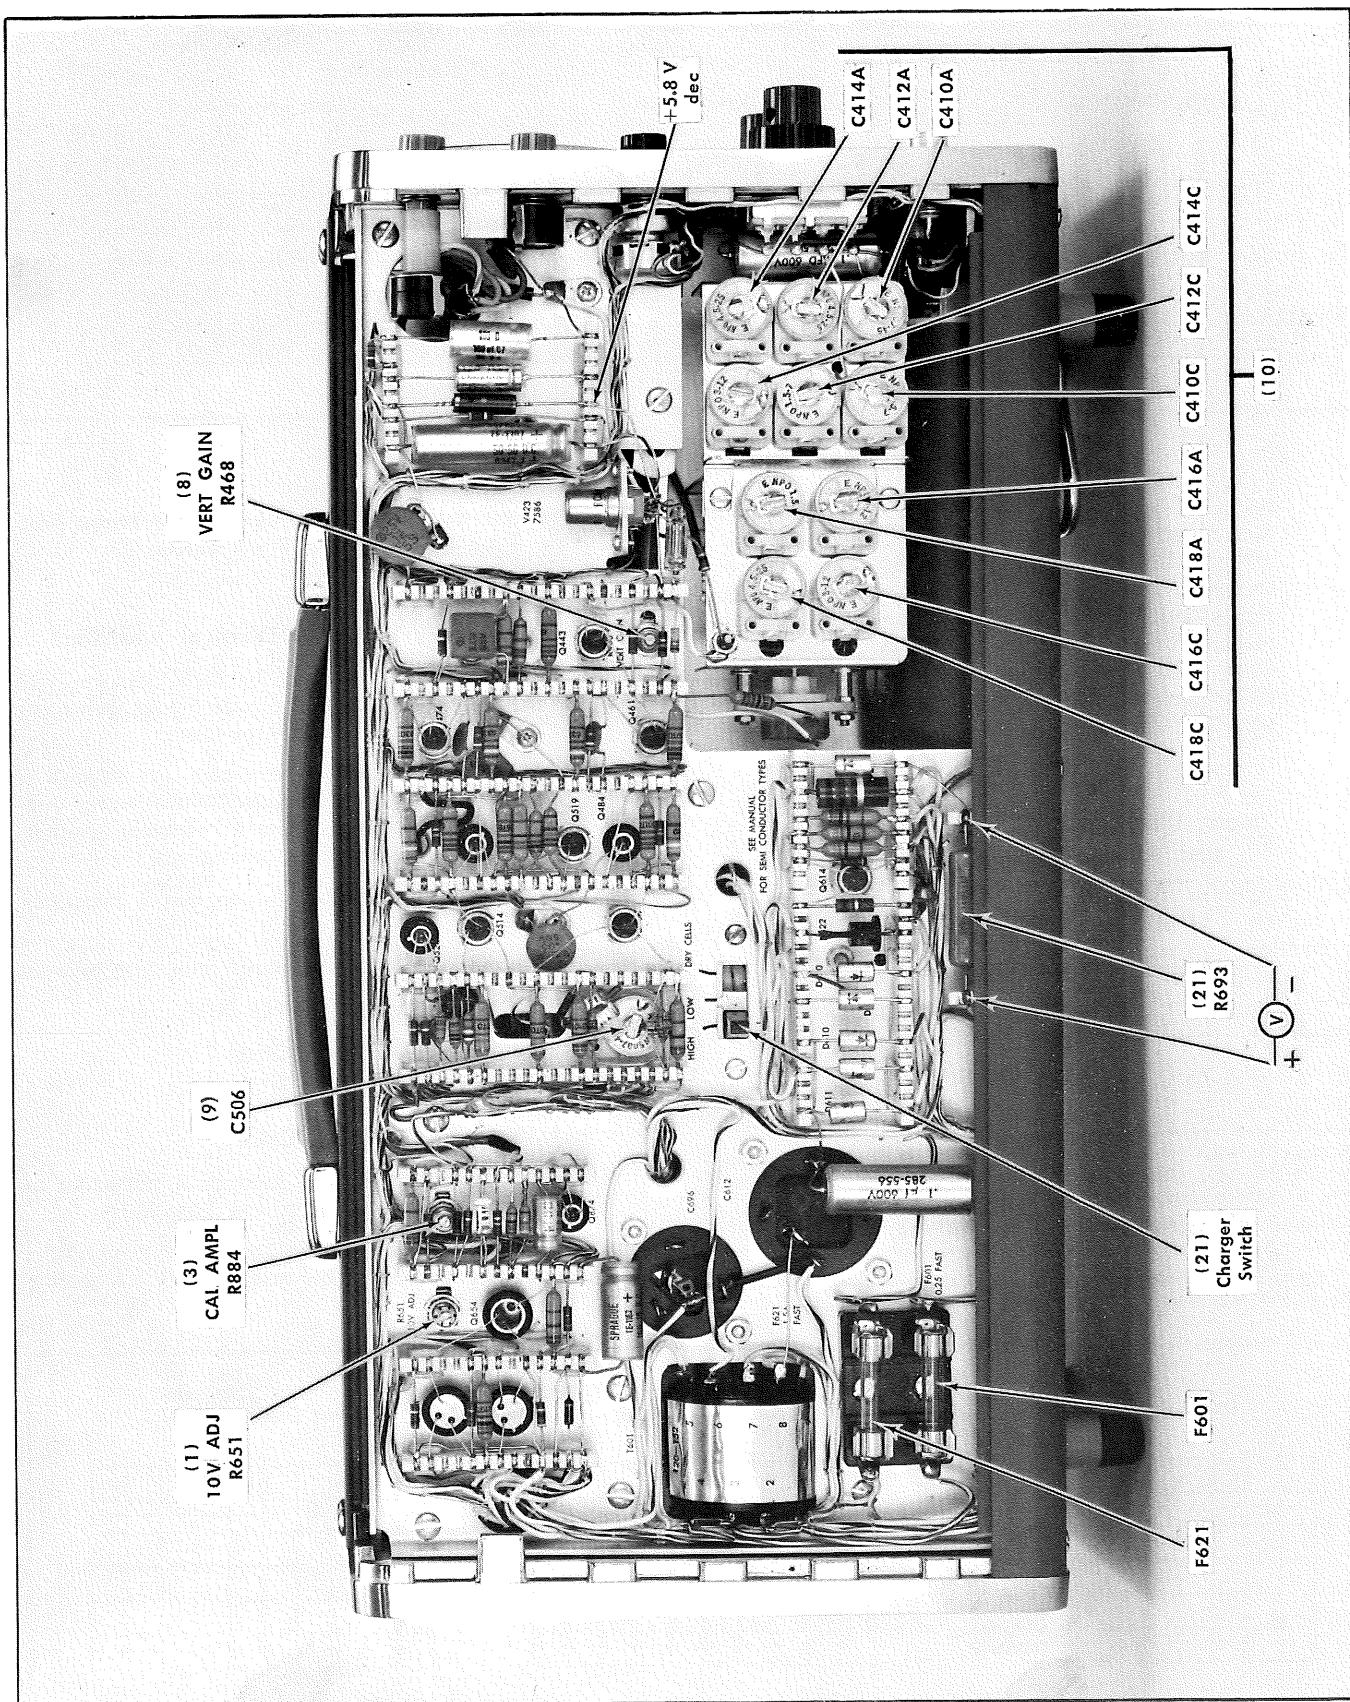

Fig. 6-5. Left-side view of the Type 321A Oscilloscope. The numbers in parenthesis refer to steps in the Calibration procedure.
- c. Approximately 4 divisions of signal should be displayed. Adjust the VERT GAIN R468 control (see Fig. 6-5) for exactly 4 divisions of vertical deflection.
- e. Adjust C506 (see Fig. 6-5) for best square-wave response; that is, for squarest leading top corner on the waveform.
- i. Using the information given in Table 6-2, adjust the two capacitors for each position (starting with the .02 VOLTS/DIV position) for best square-wave response. Location of the variable capacitors is shown in Fig. 6-5. Then, continue in a similar manner for the remaining VOLTS/DIV switch positions listed in the table. Maintain 4 divisions of deflection for each switch position providing the generator has sufficient output.
- Connect the dc voltmeter across R693. See Fig. 6-5 for location of R693 and polarity of voltage. Use Table 6-4 as a guide for typical voltage readings that should be obtained for the various switch positions.